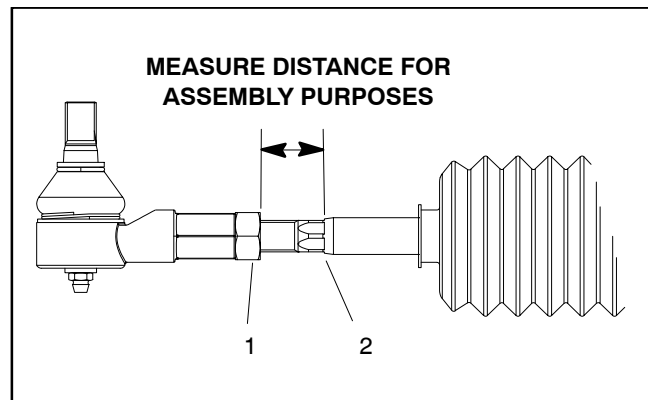

Figure 15
1. For assembly purposes, measure the distance from shoulder on the tie rod track to the location of the tie rod end (Fig. 15). This will help to adjust front wheel toe-in during assembly of steering rack.